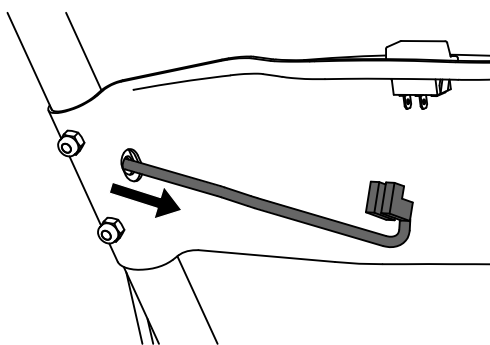

Figure 11
2. Install the middle dash panel. Route the engine switch cable through the hole on the left side of the panel as shown in Figure 11.